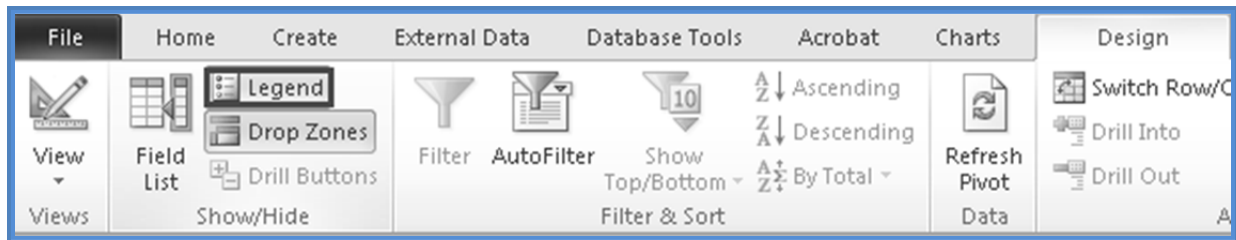

Fig. 1.2.65: Select Legend option
8. To display the legend, select **Legend** from the **Show/Hide** group on the **Design** tab, as indicated in Fig. 1.2.65.